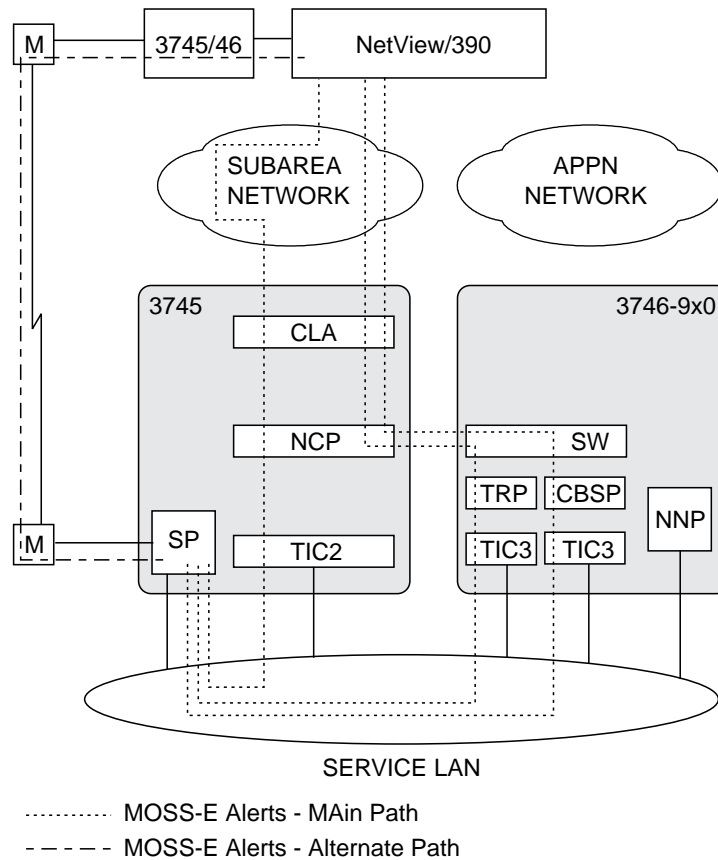

Figure 29-17. NetView Alert Paths over Subarea
Figure 29-17 on page 29-27 shows the paths for reporting network node processor and MOSS-E alerts to NetView over a subarea network.
**SNA/Subarea Path:** The service processor can use an SNA/subarea path to NetView. This is via an NCP-controlled token-ring port operating as the gateway to the NetView program. One of the following 16 Mbps token-ring ports2 connected to the service processor LAN is used to send the MOSS-E-generated hardware alerts to the NetView program (see Figure 29-17 on page 29-27):
If the mainstream path is not available, the MOSS-E can be pre-configured to contact the NetView program host via the SDLC port on the service processor (see Figure 29-17 on page 29-27):